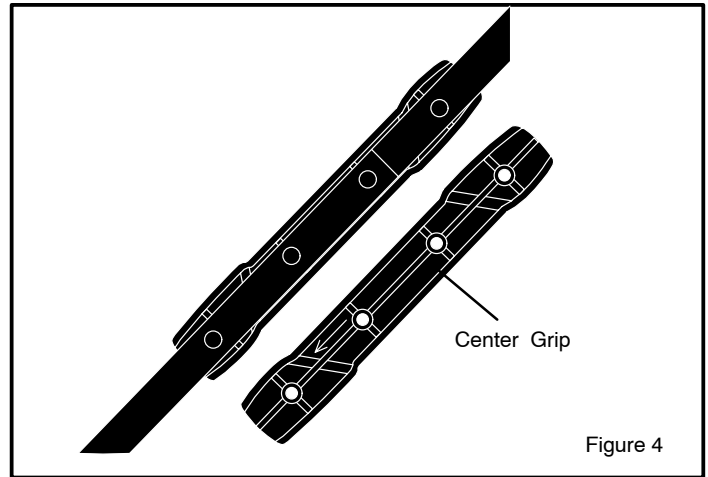

Figure 4
6. Place right center grip, point arrow (found inside of grip) down towards the shovel housing, onto handle tube aligning holes. Press firmly in place. Figure 4